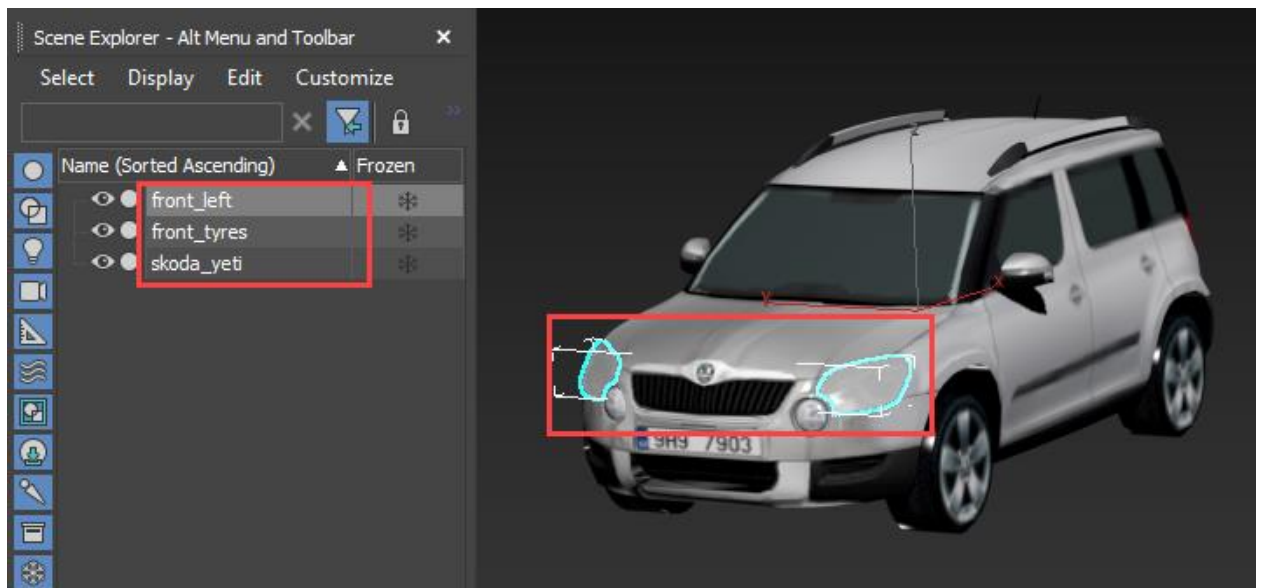

Figure 1.10. United headlights
4. Then click left mouse button on the object you want to attach in the main window or in the **Scene Explorer**. For our case select, for example, **front_right** object. After that you will see only three objects in the Scene Explorer since **front_right** was attached to the **front_left** object and both headlights will be highlighted in the main window, see Figure 1.10.